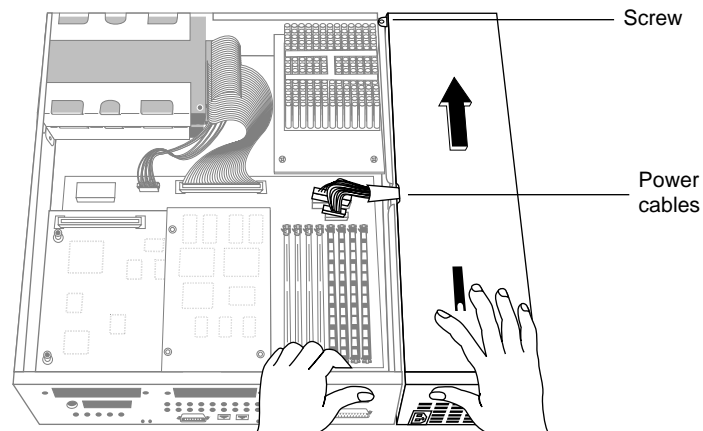

Figure 8-38 Removing the Power Supply
6. Disconnect the two power cables that connect the power supply to the system board. (Refer to Figure 8-38.)
- Place your right hand on the power supply and your left hand on the chassis a few inches from the power supply, as shown in Figure 8-38.